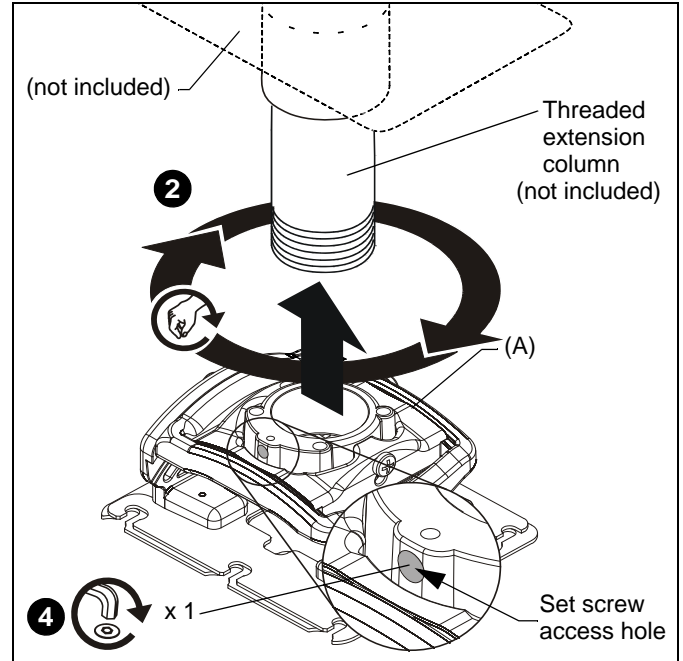
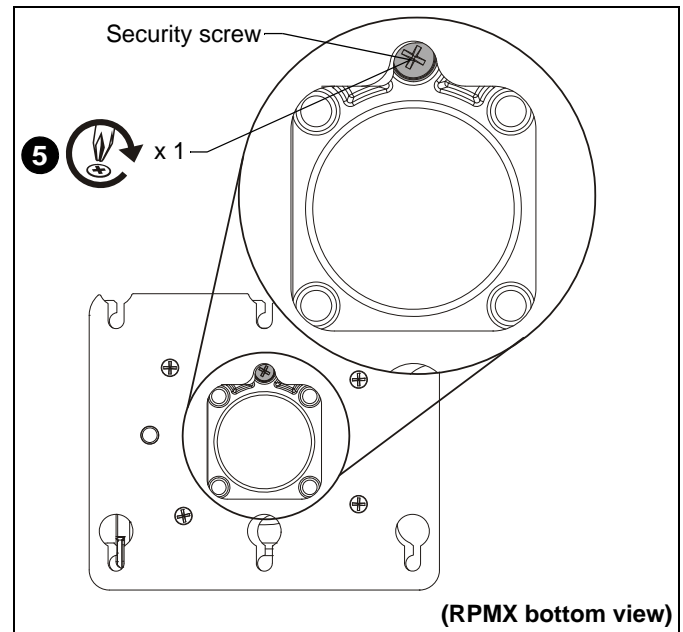

Figure 1
Figure 2
2. Thread RPMX projector mount (A) onto the threaded extension column (not included) until hand tight.
4. Secure RPMX to pipe by turning set screw with a 5/32" hex key until tight. (See Figure 1)
5. Turn security screw (access from bottom of RPMX) (See Figure 2) using a Phillips screwdriver until set screw cannot be seen through set screw access hole in RPMX. (See Figure 1)